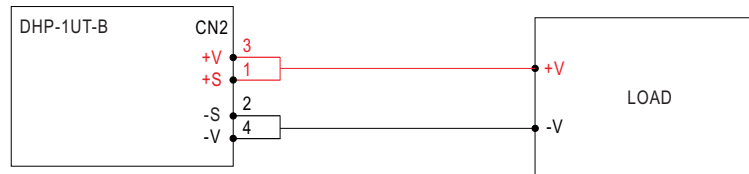

Figure 5-9 Connection of Local Sense
- For Local Sense, the +S and -S have to be connected to the +V(signal) and -V(signal), respectively, as shown in Figure 5-9, in order to get the correct output voltage if Remote Sense is not used. Otherwise, the output voltage will increase to a extremely high level which may trigger OVP.